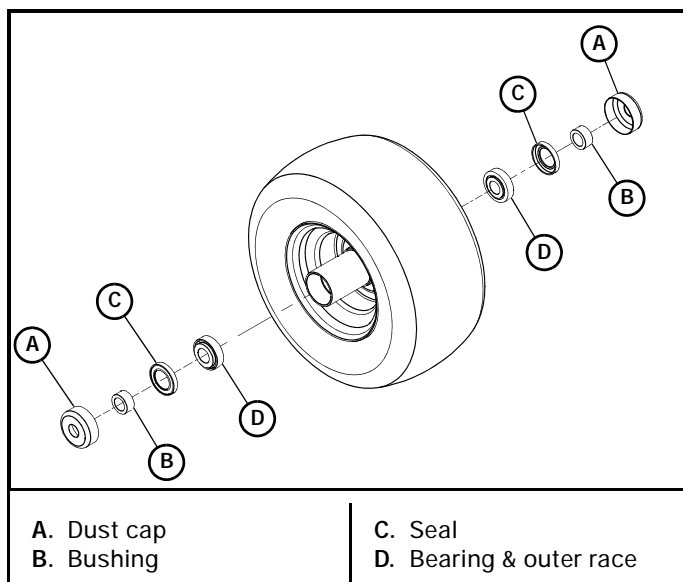

Figure 4-40
4. Remove the dust caps and bushings from the wheel housing. Retain these parts. Figure 4-40
5. Remove and discard the seals. Figure 4-40
6. Remove and discard the tapered roller bearings and outer bearing races. Figure 4-40